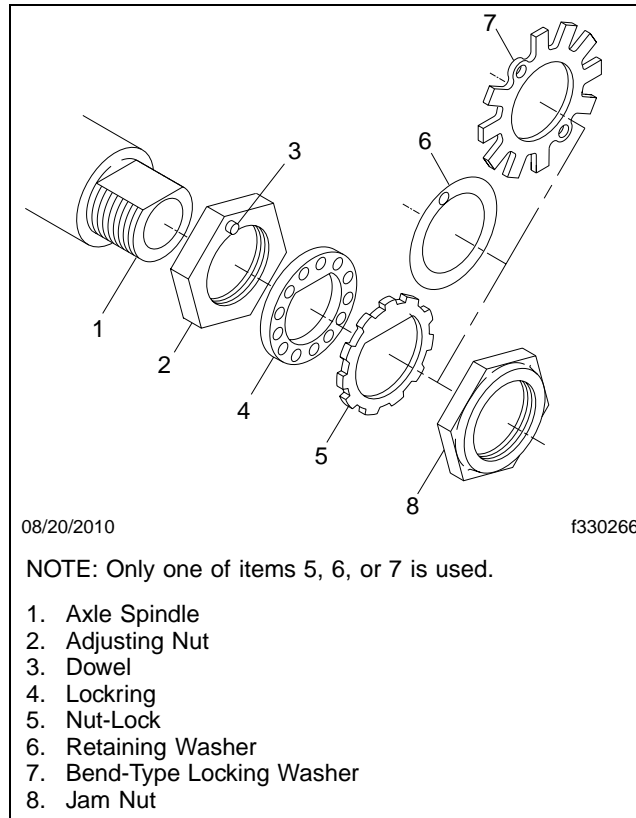

Fig. 29, Four-Piece Wheel Bearing Lock Set
ConMet PreSet hubs may use a four-piece wheel bearing lock system. See **Fig. 29**.
1. Install the adjusting nut onto the axle spindle, and tighten it 300 lbf·ft (407 N·m). See **Fig. 29**.
1. Install the adjusting nut, as follows. See **Fig. 29**.
6. Once the end play is between 0.001 and 0.005 inch (0.03 and 0.13 mm), bend two tabs on the locking washer (if equipped) at 6 o'clock and 12 o'clock to lock the jam nut in place. See **Fig. 29**.